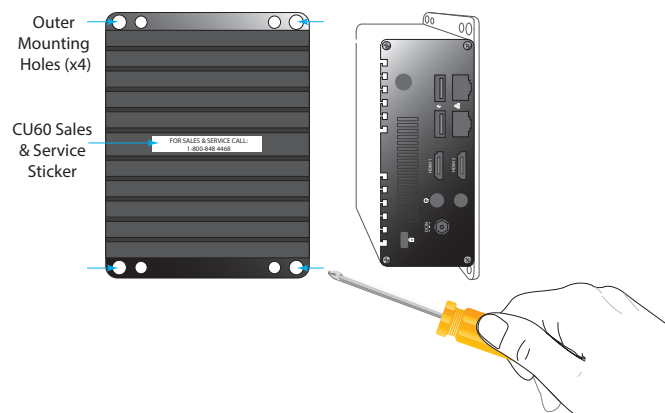

Fig. 3.5
- Mount the CU to the wall using the necessary hardware (screws and wall anchors, if necessary); see Fig. 3.5. NOTE: The HME Sales and Service sticker should face upright.